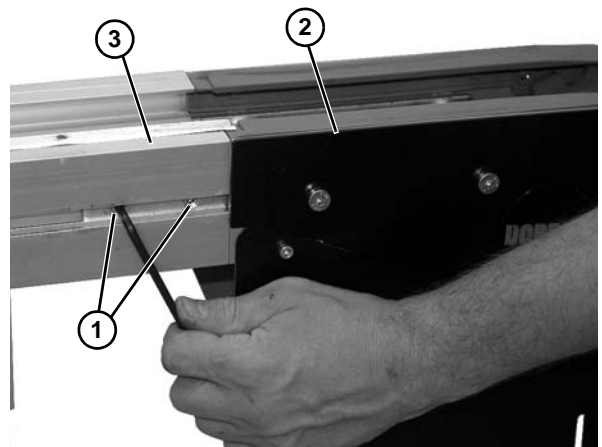

Figure 125
3. Loosen two screws (Figure 125, item 1) on each side of conveyor, and remove the drive tail assembly (Figure 125, item 2) from the conveyor frame (Figure 125, item 3).